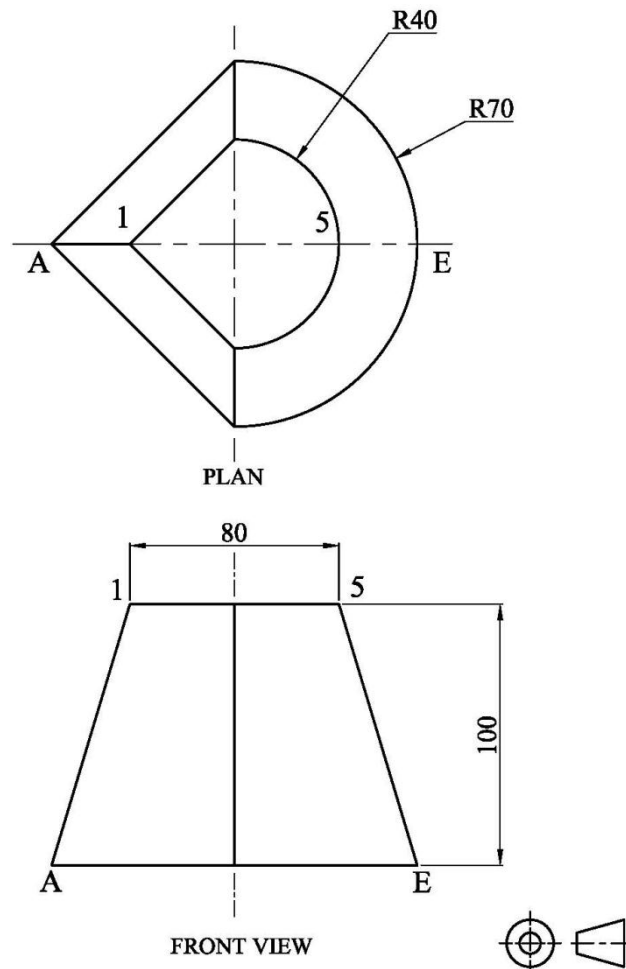

Figure 4b
- a) Copy, full size, the plan and elevation of the transition piece shown in Figure 4b. (3)
- b) Divide carefully, the surface of the transition into triangles. Label the points by drawing zigzag lines between the points and find the true lengths of the generated lines that are used to form the pattern. (4)
- c) Construct a half surface development of the transition piece by using the triangulation method. (6)